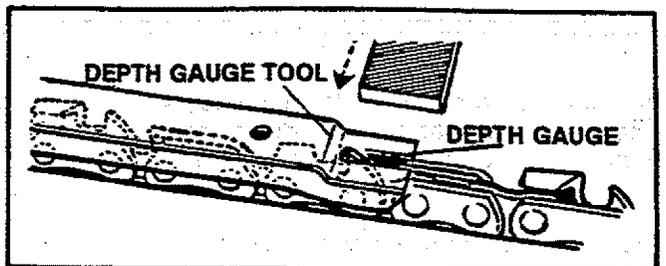

Figure 39
- a.) Place depth gauge tool (Catalog No. 71-36557) over each cutter depth gauge. Figure 39.